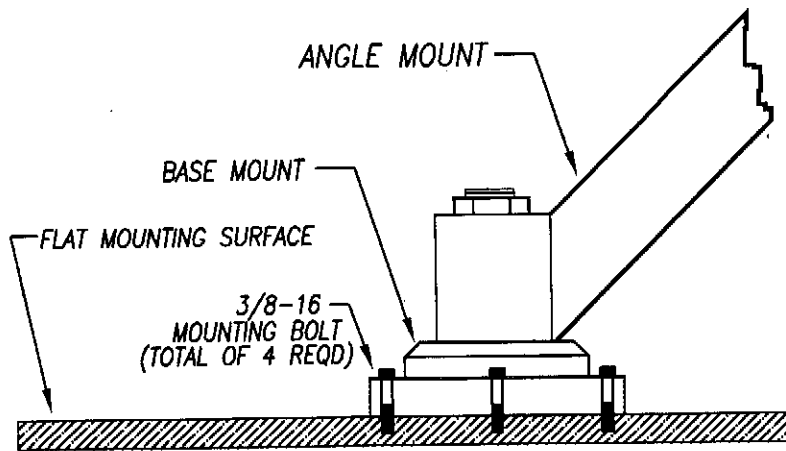

FIGURE 1
- 1) Drill and tap (4) holes on a flat, smooth table or work bench for 3/8-16 bolts per the diagram in Appendix A. If mounting on a wood surface, drill the holes for comparable carriage bolts.
- 2) Mount the *FlexArm A-32 Tapping Machine* base mount and secure it with 3/8" bolts (see Figure 1).